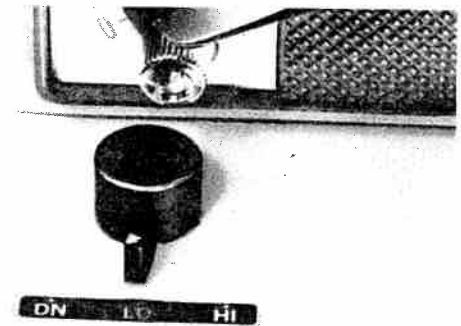
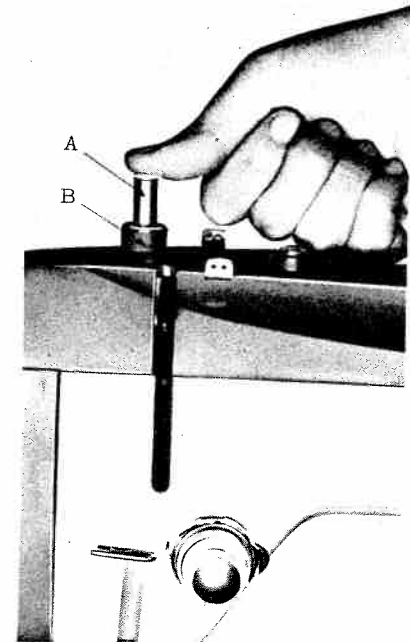

Fig. 16
Fig. 22
3. Put drop feed knob (A, Fig.16) at HI setting.
General Sewing Usually, for straight sewing, zigzag stitching, and manual embroidery, the pressure bar cap or darning release (A) (Fig. 22) is at its lowest position and the feed is at its highest level with the drop feed knob (A, Fig. 16) turned to HI position.
Sewing Thin or Lightweight Fabrics When lighter pressure is required to sew satisfactorily on thin silk or flimsy material, the pressure bar cap should be about half-way down. Release all the way by pressing the snap lockring (B, Fig. 22), then press cap (A) down again to half-way spot. Lower the feed slightly by turning the drop feed (A, Fig. 16) to LO position.
Darning and Monogramming In order to move the fabric freely in any direction for darning, mending, and certain kinds of free-hand embroidery, release the pressure cap (A, Fig. 22) completely by pressing down on the snap lockring (B, Fig. 22). Turn the drop feed knob to DN position which drops the feed well below the needle plate. To return feed to normal, turn knob to HI position.
Release the pressure from the foot by pressing down the snap lock ring on the darning. (See Fig.22) Turn the drop feed knob to DN position.